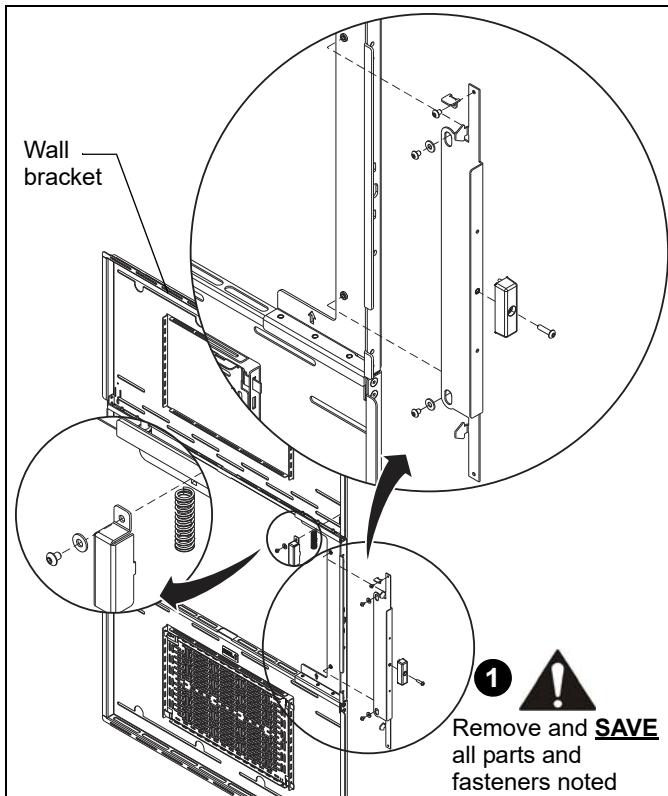

Figure 12
**IMPORTANT !** : Cables should not be placed **OVER** the wall bracket flanges. Damage to cables may occur. (See Figure 12)
1. Remove **AND SAVE** the hardware on the latch (right) side of the wall bracket. (See Figure 12)